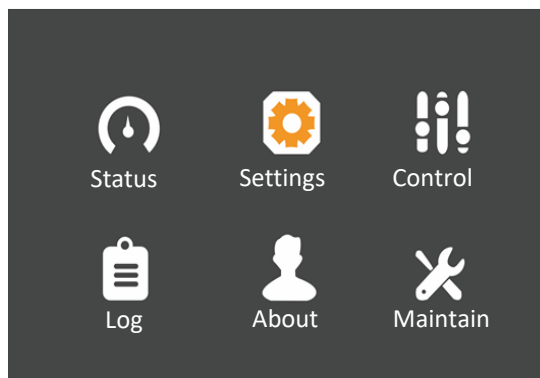

Figure 5-20 Main Menu
1. After switching the UPS on, access the main menu screen and press the **▲** or **▼** key to move the cursor to select 'Settings'. See Figure 5-20.